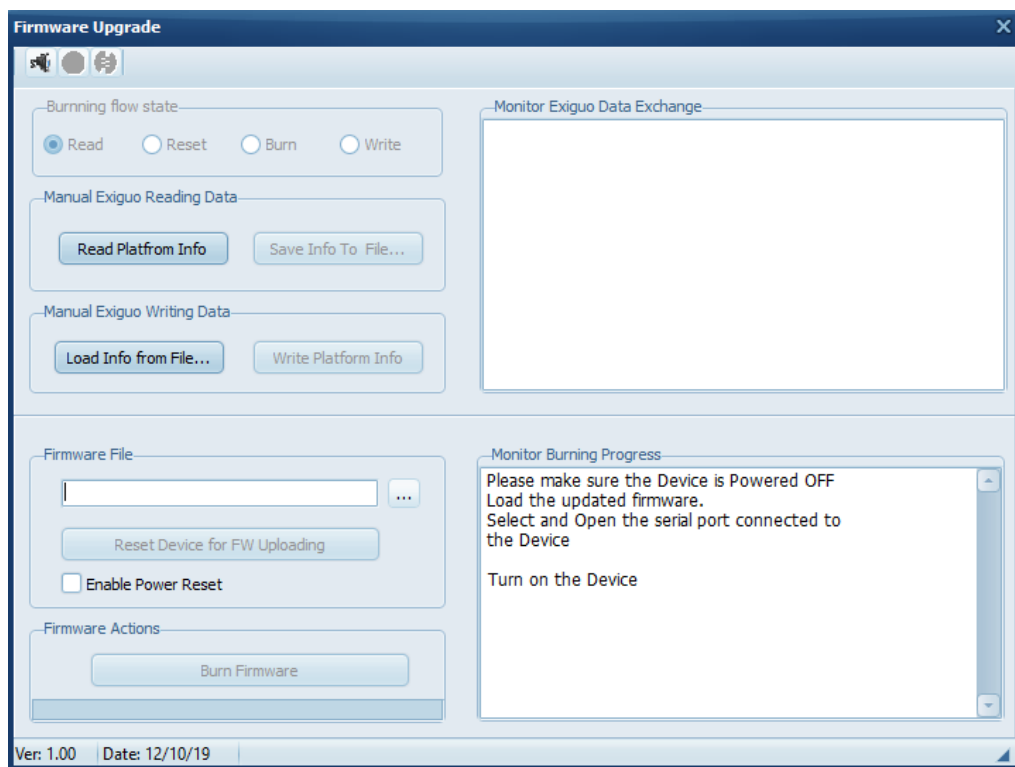

Figure 17. Firmware Update
3. In the group of three left-most buttons (Figure 17):